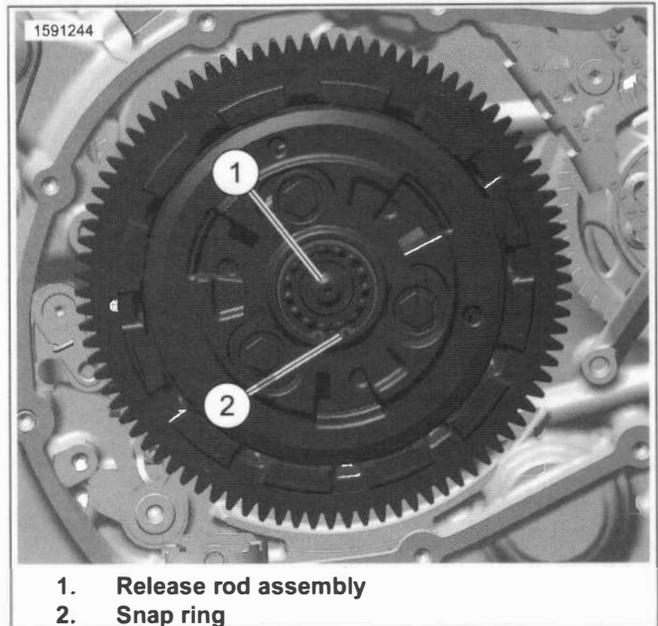

Figure 5-21. Release Rod Assembly
- See Figure 5-21. Install release rod assembly and bearing (1).
- With paint mark or beveled side out, install snap ring (2).